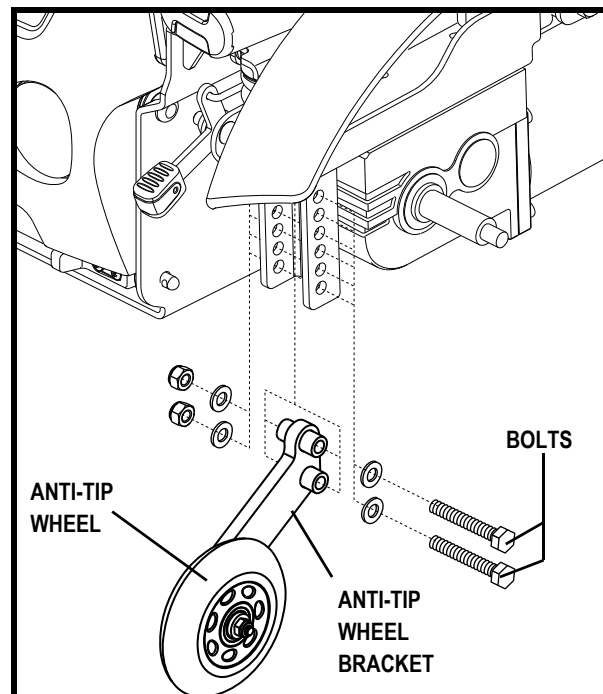

Figure 22. Anti-Tip Wheel Assembly
1. Remove both bolts from the anti-tip wheel bracket. See figure 22.
2. Raise or lower the anti-tip wheel in 1.25 cm (0.5 in.) increments by aligning the appropriate adjustment holes. See figure 22.